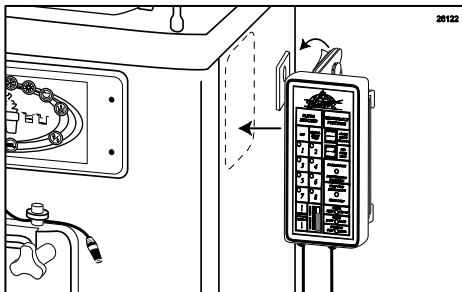

Figure 114
- Remove the protective tape from the adhesive pad. Attach the Keypad bracket assembly to the desired mounting area. Ensure there is enough room between the Keypad assembly and the freezer face to slide the Keypad off and on the Bracket for daily cleaning. (See Figure 114.)